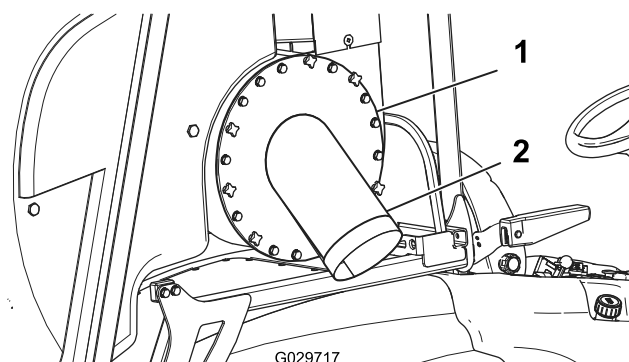

Figure 12
- Install the turbine fan cover over the fan using knobs and bolts (Figure 12).
6. Slide the other end over the port on the turbine fan cover (Figure 12) and tighten the hose clamp to secure it.